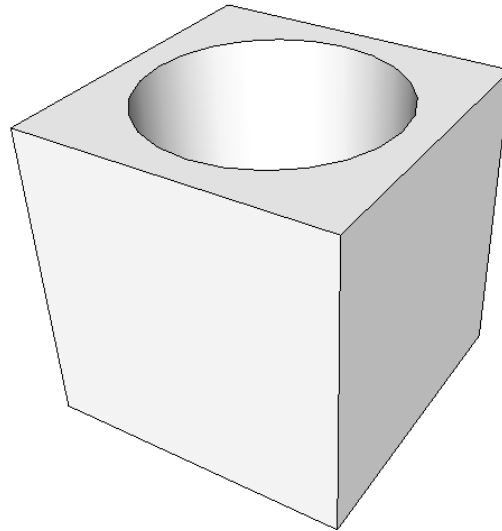

Figure 3: Thermocol block after making the hole
- Use heating element like soldering gun and scoop out the thermocol within the circle such that the depth of the hole = Radius of the Metal ball + 2 cm. Refer to Figure 3.